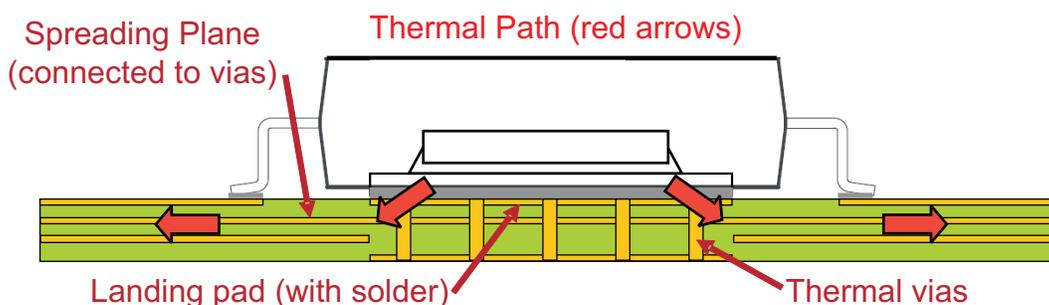

Figure 1. PCB Thermal Path
2. Spreading plane: There must be at least one Cu spreading plane in the PCB. This plane conducts the heat away from the small area of the component to a larger area in the PCB where the heat is then dissipated through convection and radiation into the surrounding environment. As such, the plane must have sufficient thickness and area to provide adequate heat sinking for the component. Electrically, the plane is normally held at ground for exposed pad packages. As illustrated in Figure 1, the spreading plane can be located on the top layer and directly connected to the landing pad. This is often the case for packages such as TSSOP or SON. The spreading planes can also be located on buried layers and connected to the vias. Buried spreading planes are commonly used with packages such as QFN or QFP. Figure 1 lists and illustrates a short summary of the main factors.